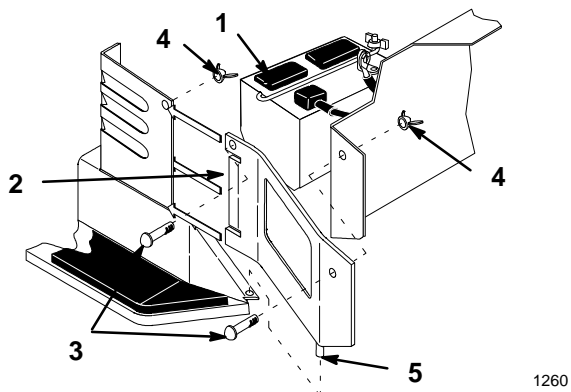

Figure 37
4. Remove side panels for clearance when removing battery (Fig. 37). Remove the wing nuts and screws and lift up to clear pin and slide panel tabs out from steering tower.
8. Install the battery into the chassis (Fig. 37).
12. Install side panels by sliding tabs into steering tower and inserting pin into flange of footrest. Secure with screws and wing nuts (Fig. 37).